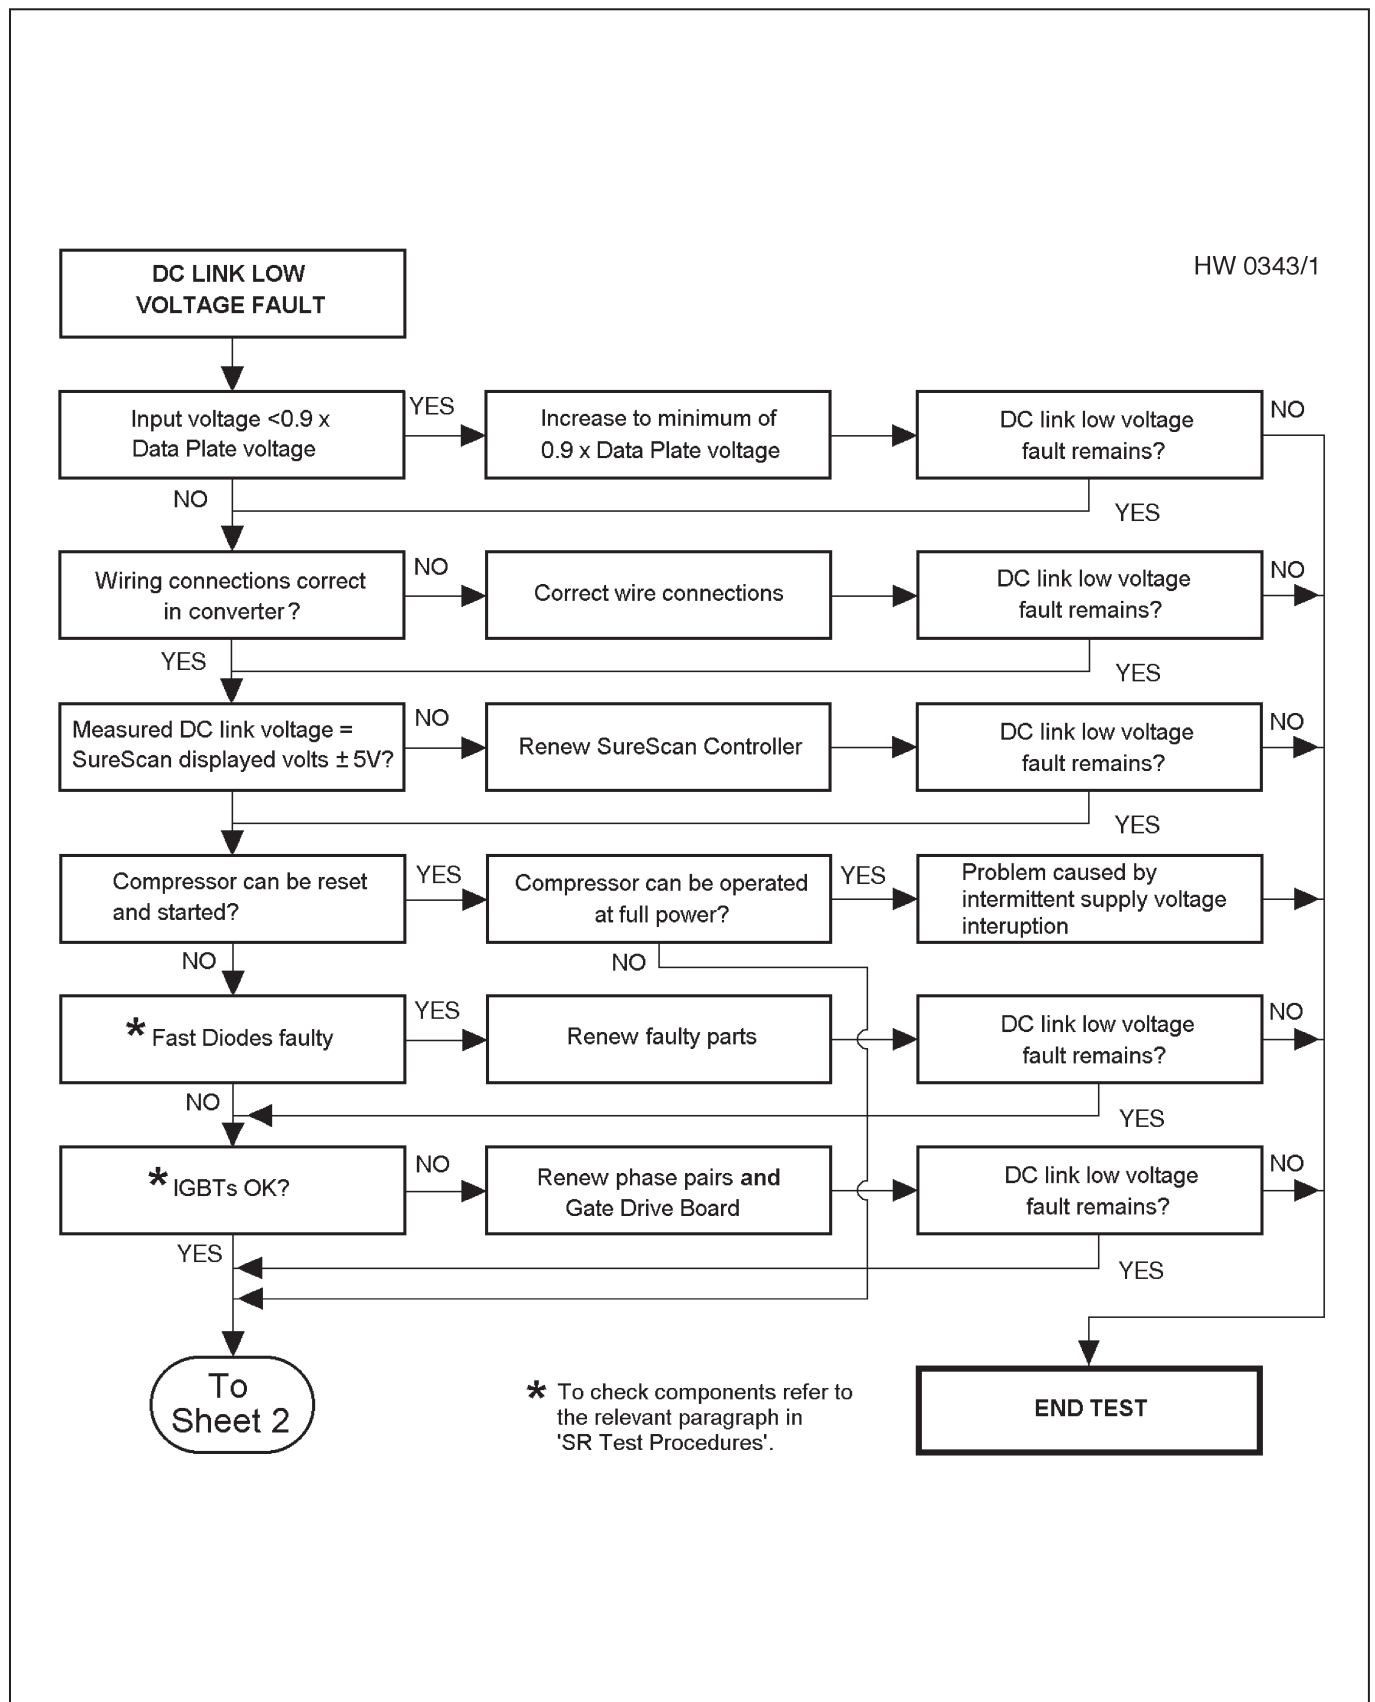

Fig. 4.12 - Link Low Voltage Fault (1 of 2)
4.8.5 DC Link Low Voltage Fault (figs. 4.12, 4.13)
- b) Refer to the flow chart in figs. 4.12, 4.13 for the fault finding procedure.